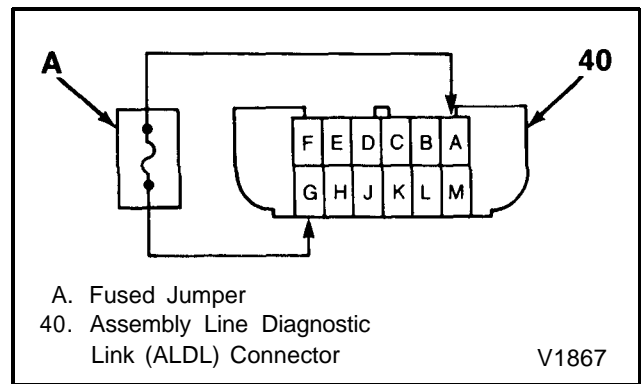

Figure 4 - Coding the Transmitter
2. Jumper program connector terminal "A". (BLK/WHT) to terminal "G" (PPL) on assembly line diagnostic link (ALDL) connector (40). Door locks will lock and unlock in approximately two seconds (figure 4).
4. Disconnect jumper from assembly line diagnostic link (ALDL) connector (40).